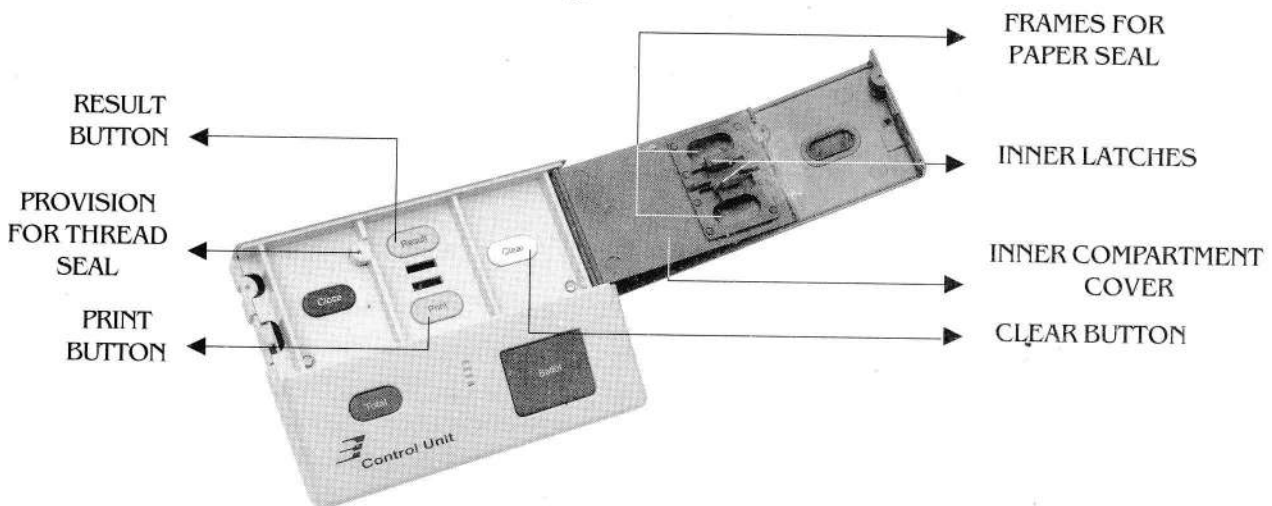

FIG. 10 View of inner compartment of Result Section
22. The door of the inner compartment has two elliptical apertures through which buttons marked 'Result' and 'Print' are seen. The inner door can be opened by inserting the thumb and a finger through the two apertures above the 'Result' and 'Print' buttons and then pressing the inner latches simultaneously, slightly inwards. **In no case, this inner door should be forced open without releasing the latches in the manner described above, to avoid any damage to this most vital compartment.** On opening the door of the inner compartment by inserting forefinger and thumb through the holes which are marked 'Result' and 'Print' and pressing the latches and pulling the cover up, there will be seen on its inner side a frame around the two apertures for fixing green paper seal. This will also reveal three sub-sections with **two yellow buttons marked 'Result' and 'Print' and a white 'Clear' button.** The description of this para refers to Fig. 10.